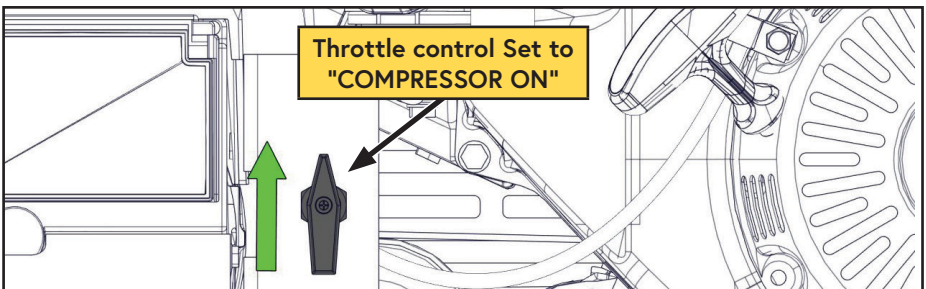

Figure 24 — Throttle control valve
- The throttle control valve should remain at "COMPRESSOR ON" (this will allow the engine speed to reduce to base idle when the system reaches maximum system pressure) (Figure 24).